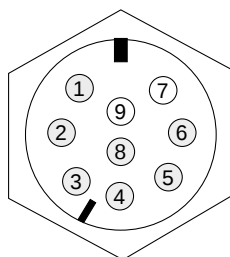

Figure 4-2. Maintenance Connector Pinout
and the router IP address is set to a known value (10.0.0.1). See Figure 4-2 for the maintenance connector pin locations.
10. To reset the router, remove router power and short pin 7 to pin 9 on the maintenance connector prior to re-applying power, then hold the short for 30 seconds after power is applied. After the short is removed, the router is reset and the router IP address is set to a known value (10.0.0.1). See Figure 4-2 for the maintenance connector pin locations.